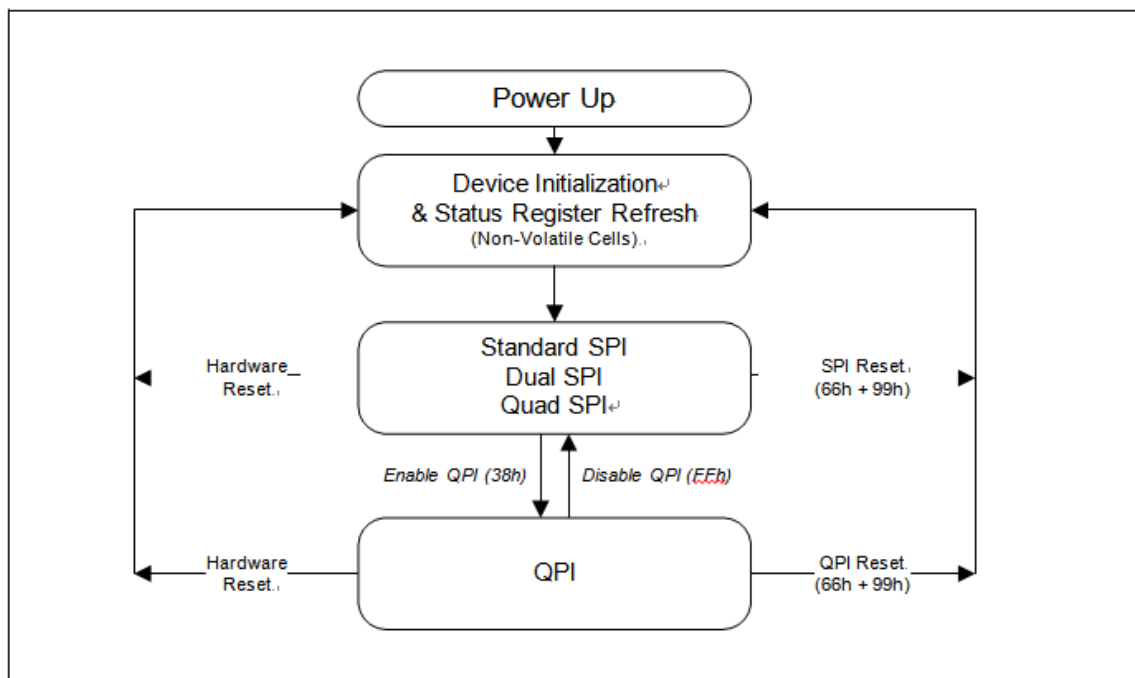

Figure 3. XM25QH16C Serial Flash Memory Operation Diagram
The XM25QH16C supports Quad Peripheral Interface (QPI) operations only when the device is switched from Standard/Dual/Quad SPI mode to QPI mode using the “Enter QPI (38h)” instruction. The typical SPI protocol requires that the byte-long instruction code being shifted into the device only via DI pin in eight serial clocks. The QPI mode utilizes all four IO pins to input the instruction code, thus only two serial clocks are required. This can significantly reduce the SPI instruction overhead and improve system performance in an XIP environment. Standard/Dual/Quad SPI mode and QPI mode are exclusive. Only one mode can be active at any given time. “Enter QPI (38h)” and “Exit QPI (FFh)” instructions are used to switch between these two modes. Upon power-up or after a software reset using “Reset (99h)” instruction, the default state of the device is Standard/Dual/Quad SPI mode. To enable QPI mode, the non-volatile Quad Enable bit (QE) in Status Register-2 is required to be set. When using QPI instructions, the DI and DO pins become bidirectional IO0 and IO1, and the /WP and /HOLD pins become IO2 and IO3 respectively. See Figure 3 for the device operation modes.